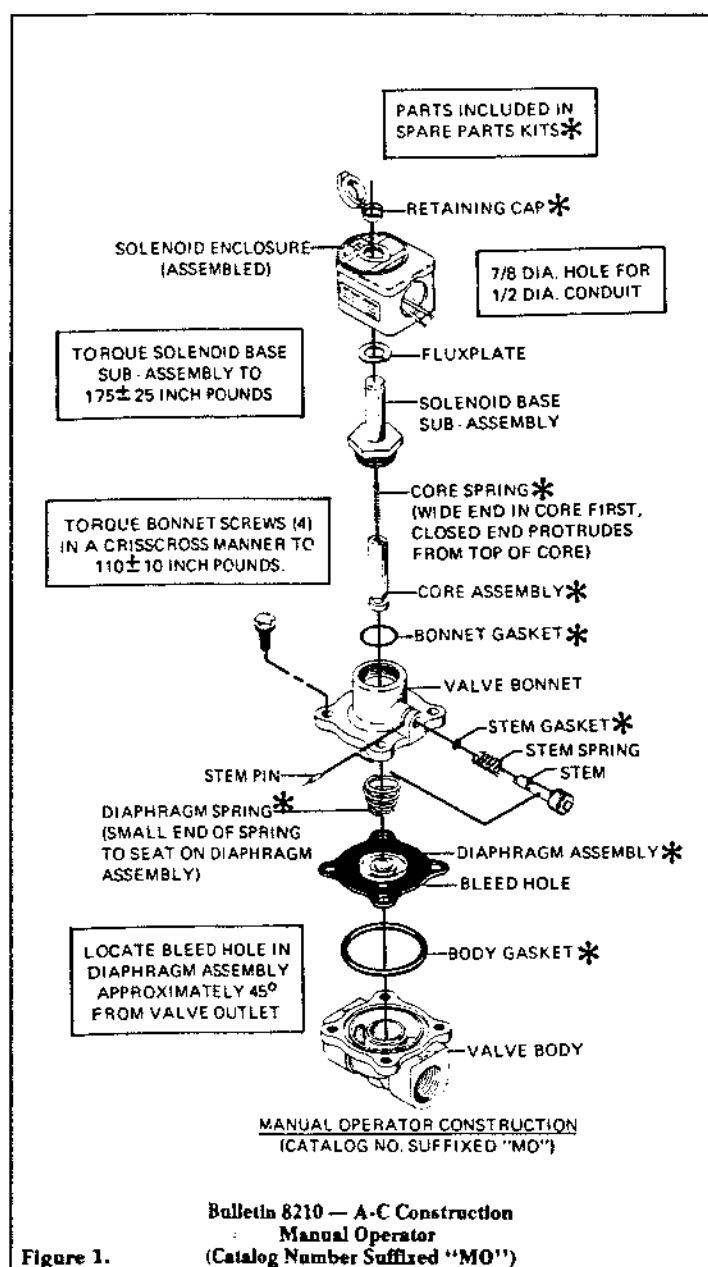

Figure 1.
MANUAL OPERATOR LOCATION (Refer to Figures 1 and 3)
COIL REPLACEMENT (Refer to Figures 1, 2 and 3)
Depressurize valve and turn off electrical power supply. For A-C Construction, refer to Figures 1 and 2. For D-C Construction, refer to Figure 3. Proceed in the following manner:
3. Replace valve bonnet and bonnet screws. Torque bonnet screws (4) in a crisscross manner to 110 ± 10 inch pounds.
4. For A-C Construction, the diaphragm spring, core assembly and core spring must be installed prior to assembly of bonnet as this is the solenoid base sub-assembly. Be sure diaphragm spring is installed properly. Closed turns of spring to seat on diaphragm assembly. For valves with a manual operator (see Figure 1), the small end of diaphragm spring seats on diaphragm assembly.